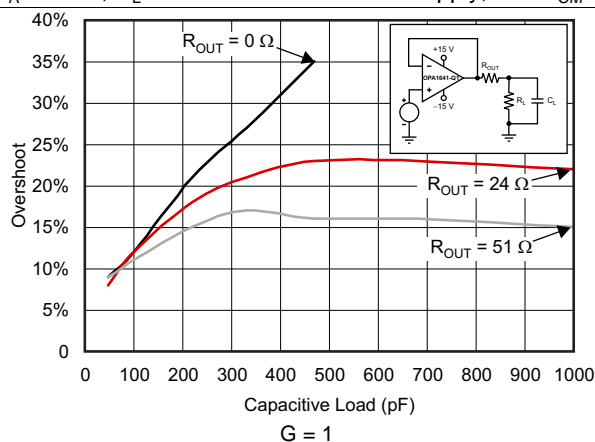
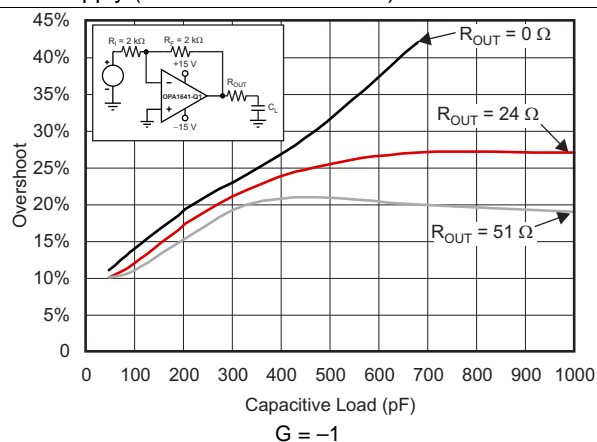

Figure 19. Small-Signal Overshoot vs Capacitive Load (100-mV Output Step)
Figure 20. Small-Signal Overshoot vs Capacitive Load (100-mV Output Step)
(1) Full power bandwidth = $SR / (2\pi \times V_P)$, where SR = slew rate.
(2) See Figure 19 and Figure 20.
Figure 19 and Figure 20 illustrate graphs of *Small-Signal Overshoot vs Capacitive Load* for several values of R_{OUT} . For details of analysis techniques and application circuits, see Feedback Plots Define Op Amp AC Performance available for download at www.ti.com